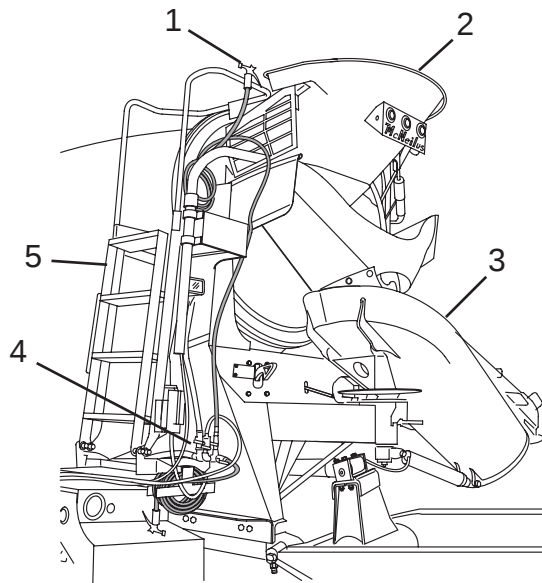

Figure 106
4. Unfold the access ladder (Figure 106, Item 5).
6. Turn on the wash-out hose valve (Figure 106, Item 4).
7. Using the wash-out hose (Figure 106, Item 1), start at the top and wash out the charge hopper (Figure 106, Item 2), the interior of the drum, the main chute (Figure 106, Item 3), and chute extensions.